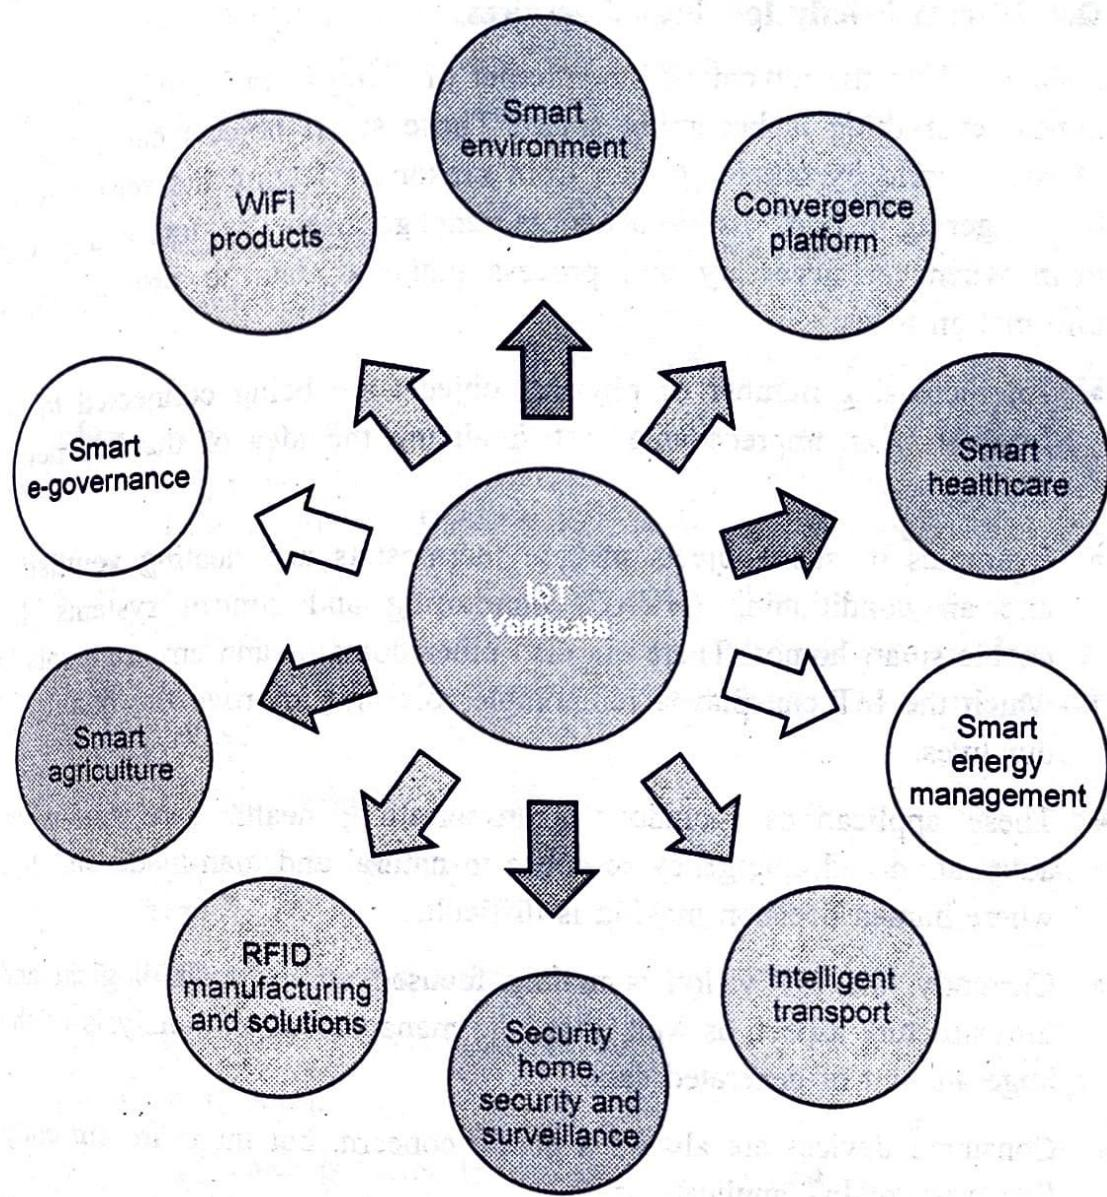

Fig. Q.1.1 IoT vertical applications
- Fig. Q.1.1 shows IoT vertical applications.